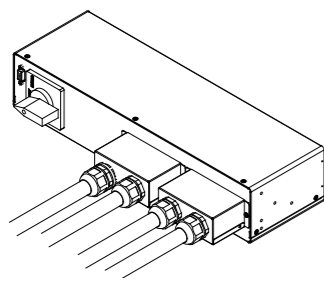

Fig. 5
- 5-3. Fasten the cable entry boxes to the MBB-S unit and then fasten the cables with the locking nuts of the cable glands. See Fig. 5.